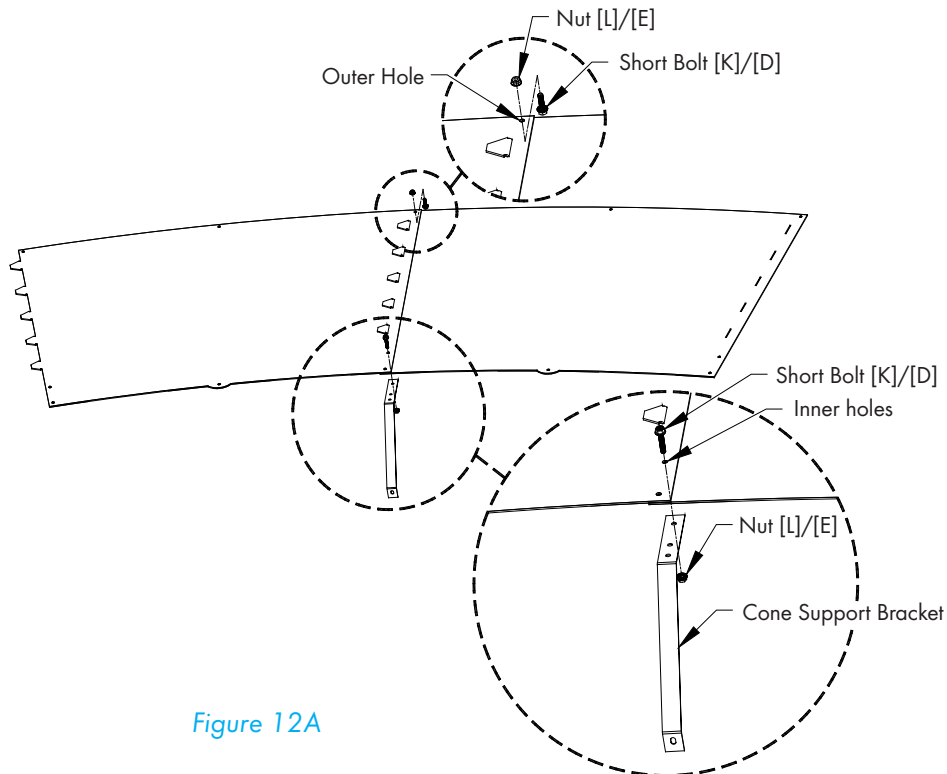

Figure 12A
For **WS55xK Fan** fasten each of the joints in the single outer hole using (1) Short Bolt [K] and Nut [L], with the nut on the side with the tabs. At the inner pair of holes of each joint attach (1) Cone Support Bracket to the inner hole using (1) Short Bolt [K] and Nut [L] with the bolt head on the side with the tabs. For **WS55xP Fan** fasten each of the joints in the single outer hole using (1) Short Bolt [D] and Nut [E], with the nut on the side with the tabs. At the inner pair of holes of each joint attach (1) Cone Support Bracket to the inner hole using (1) Short Bolt [D] and Nut [E] with the bolt head on the side with the tabs. See Figure 12A.